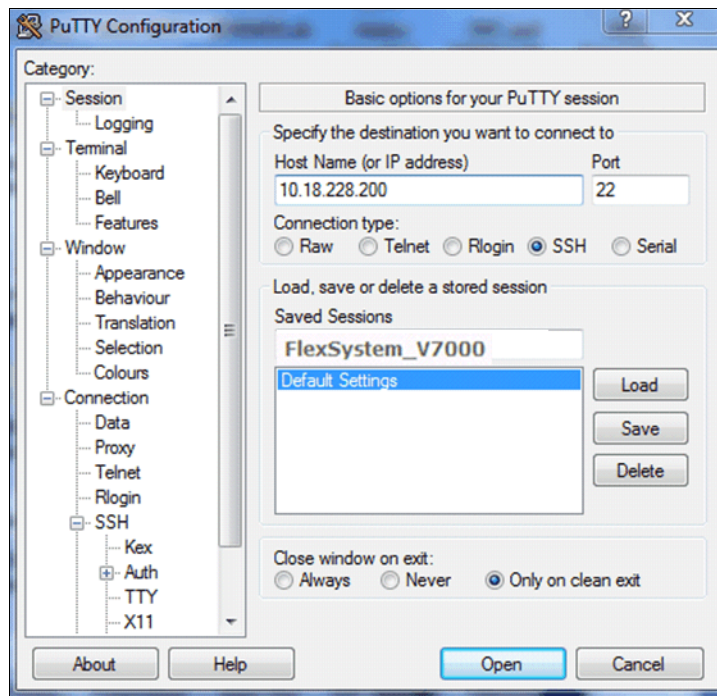

Figure A-13 Enter session information
6. In the right pane, enter the host name or system IP address of the IBM Flex System V7000 Storage Node cluster in the Host Name field, and enter a session name in the Saved Sessions field (Figure A-13).